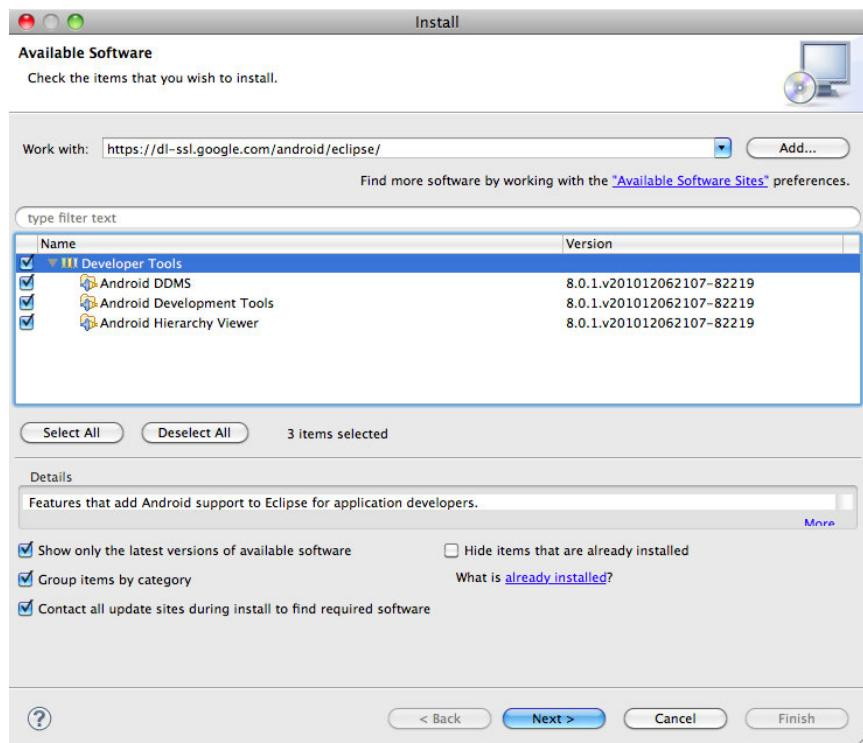

Figure 6-7. Installing Eclipse Developer Tools
3. You will see a Developer Tools option in the list. Check the box next to it and click the triangle next to the checkbox to expand the view. Confirm that Android DDMS, Android Development Tools, and Android Hierarchy Viewer are selected, as shown in Figure 6-7, and press Next.